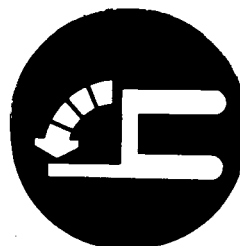

Figure 1-14.
6. Starting with the mast pivoted clockwise 90 degrees and fully shifted to the left, pull the pivot and shift control levers rearward. (Figures 1-14 & 1-15). You will notice both mast counter-clockwise rotation and right hand shift action. The action again will not be synchronized and one function will bottom out before the other. Continual practice in simultaneous feathering (metering) of the control levers will produce a smooth, synchronized action.